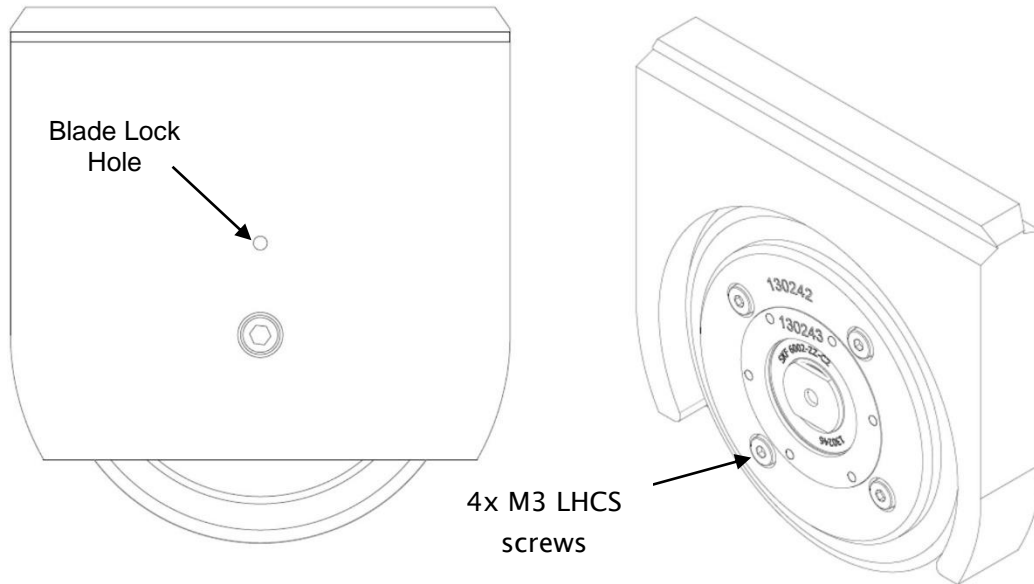

Figure 5 - Blade Removal and Installation
- 2) Insert 2.5mm hex wrench or equivalent size pin into the blade lock hole on the back of the cartridge and rotate the blade clamp until it stops (see Figure 5 above).
Crush knifeholders are connected to one air manifold. The Crush knifeholders will down-stroke by activating the air supply and adjusting the air pressure to control the down force. To set the input air pressure on the regulator, consult the charts of down force as a function of air pressure below in Figure 5